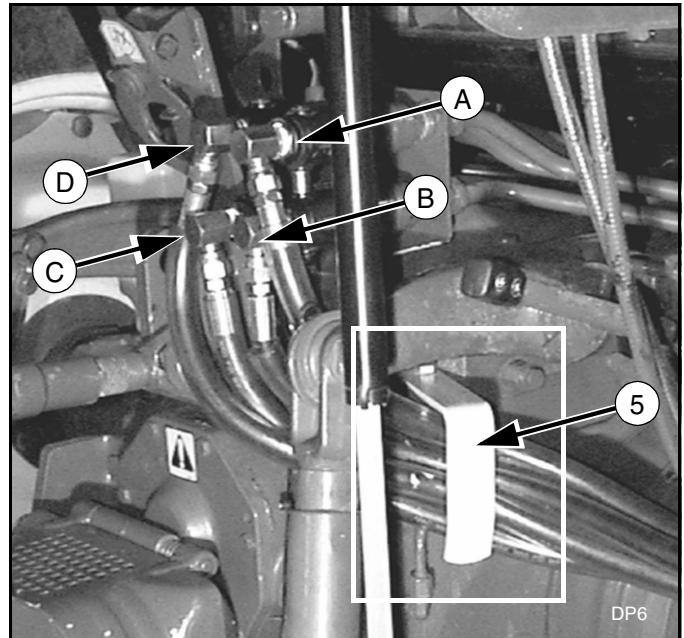

Figure 13. Hose Guide Installed
1. Remove right rear rockshaft housing cap screw and attach hose guide (5) as shown in Figure 13. Secure using tractor hardware.
4. Route hoses behind hose guide and connect hydraulic hoses to tractor hydraulic couplers as shown in Figure 13.